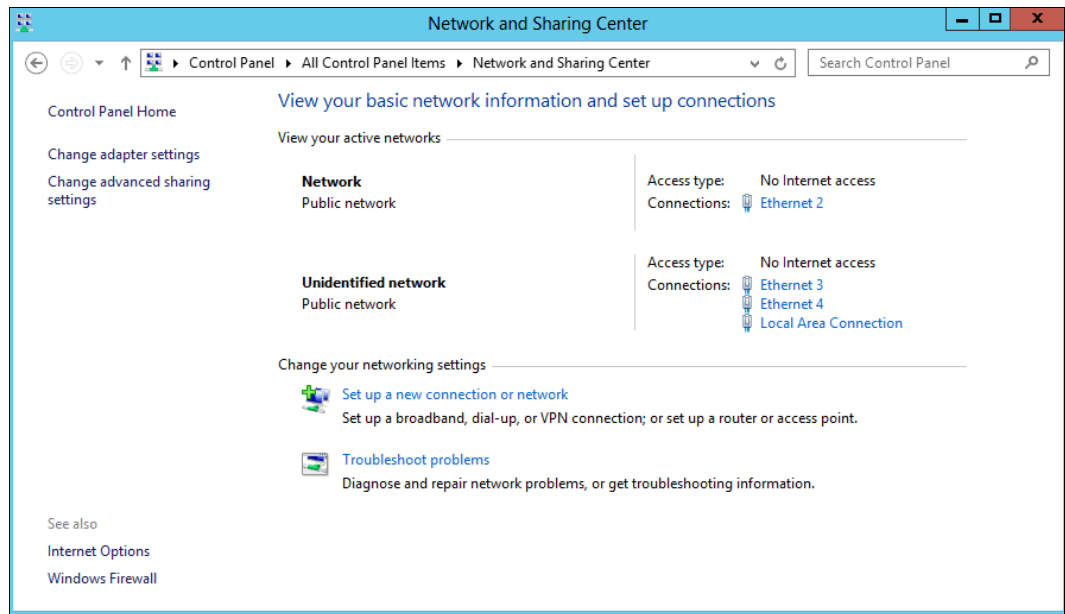

Figure 4-7 Network and Sharing Center in Windows 2012 R2
1. Go to **Control** → **Network and Internet** → **Network and Sharing Center**. This should take you to the window shown in Figure 4-7.